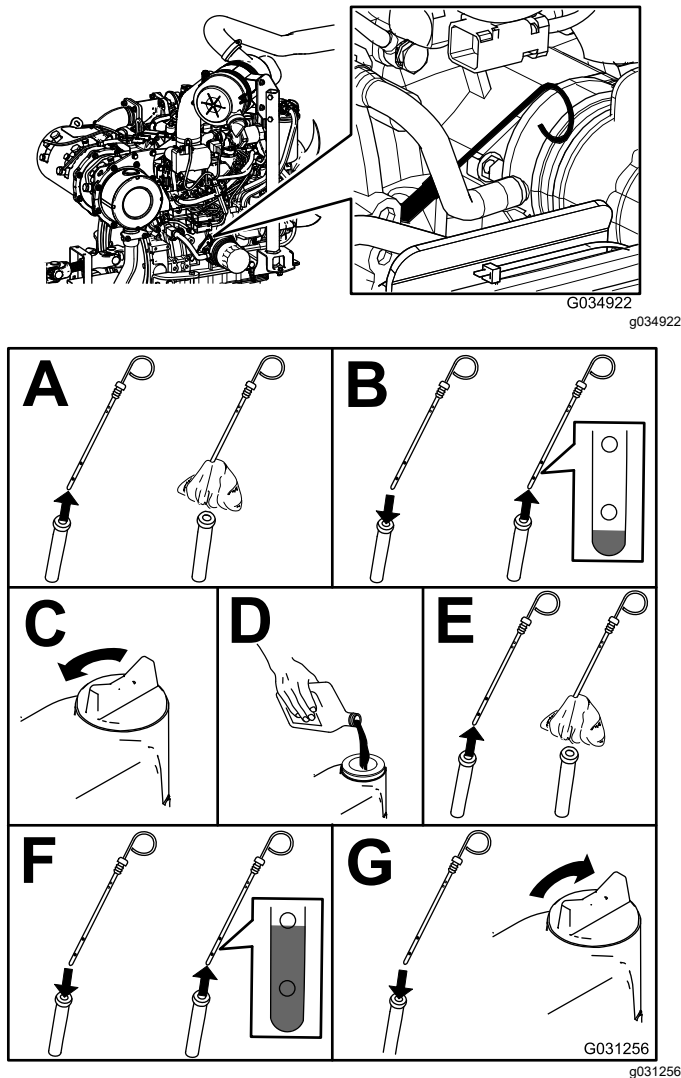

Figure 116
3. Check the level of the engine oil (Figure 116).